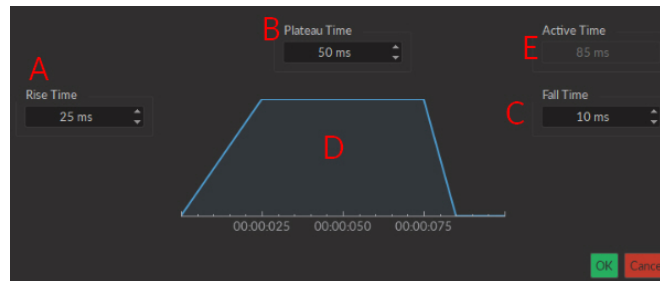

Figure 3.60: Light Source Smoothing Edge(s) Window
- iv. The **Smoothing** option is used to change the pulse slope in square pulse sequences. The **Edit Edges** button opens the **Smoothing Edge(s)** window (Fig. 3.60).